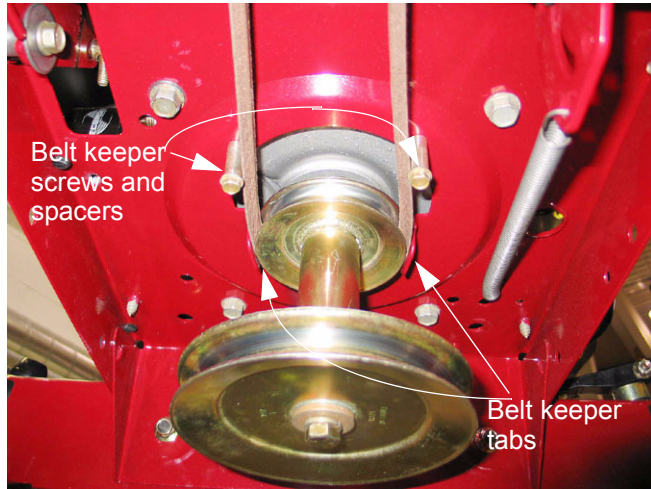

Figure 11.11
11.11. Remove the crankshaft pulley using a 5/8" wrench. See Figure 11.11.